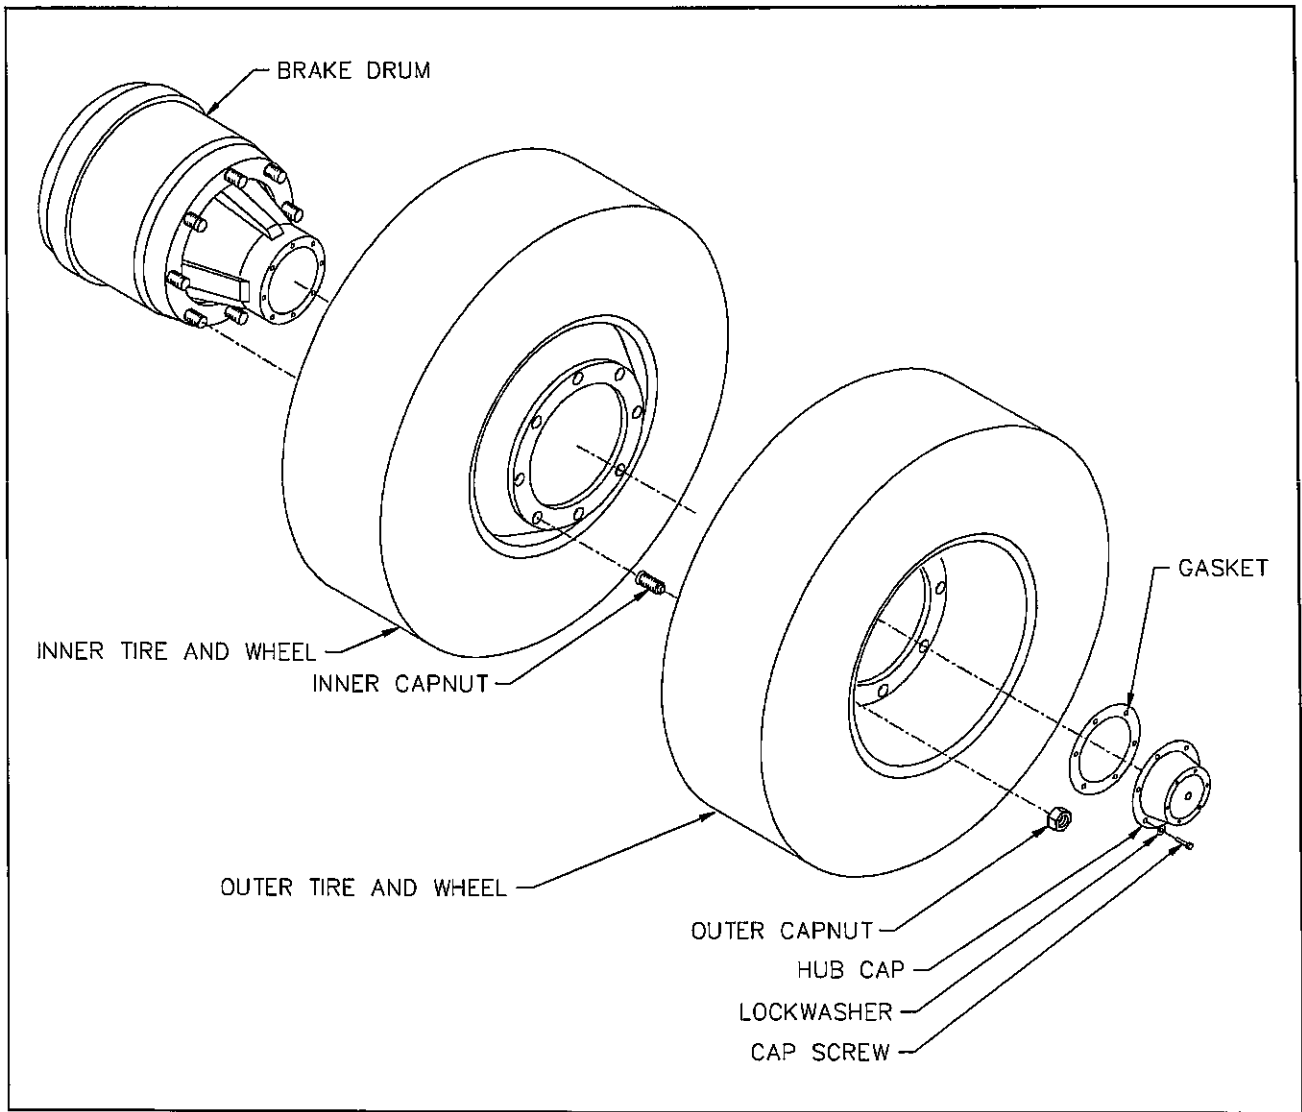

Figure 4-19 Mounting Tires and Wheels
a. Make sure that all mounting surfaces are clean and free of rust, dirt or paint. A wire brush may be used to clean these surfaces (See Figure 4-19).